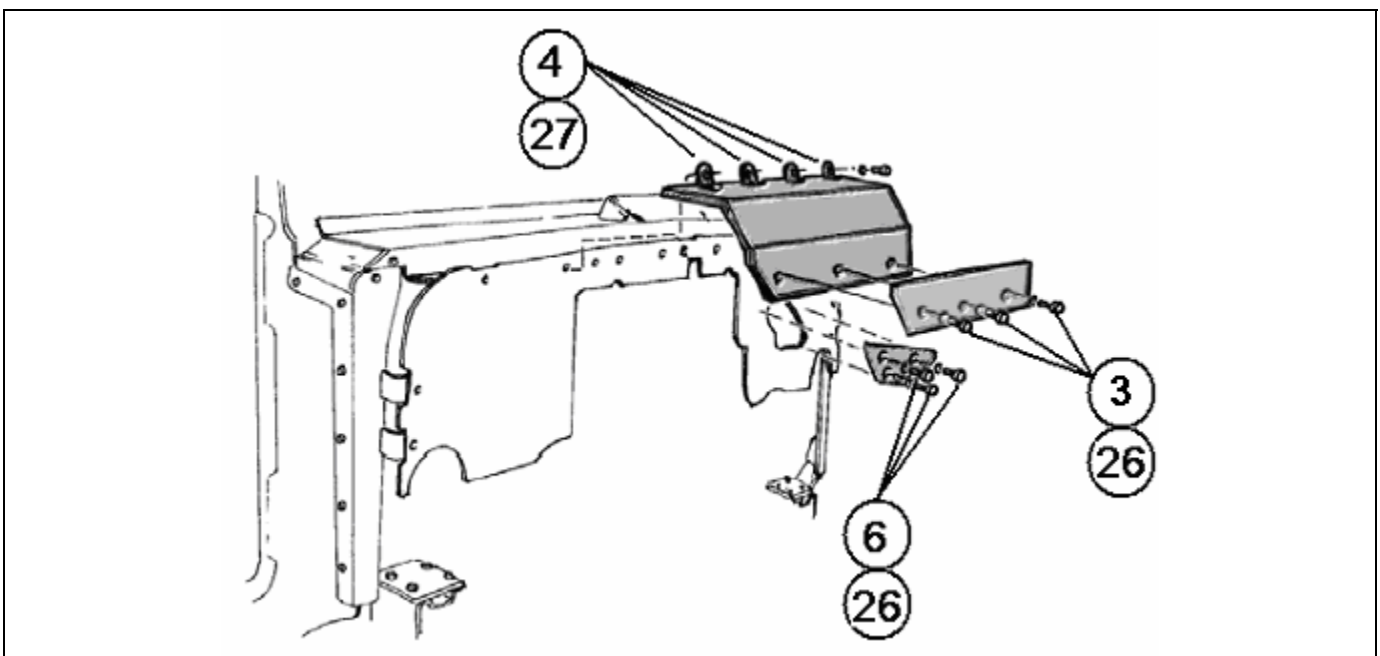

Figure 5-77. Front Cover Kit Installation (5 of 5).
4. Install the air filter armor and brackets #969 on the firewall armor panel per Figure 5-77.